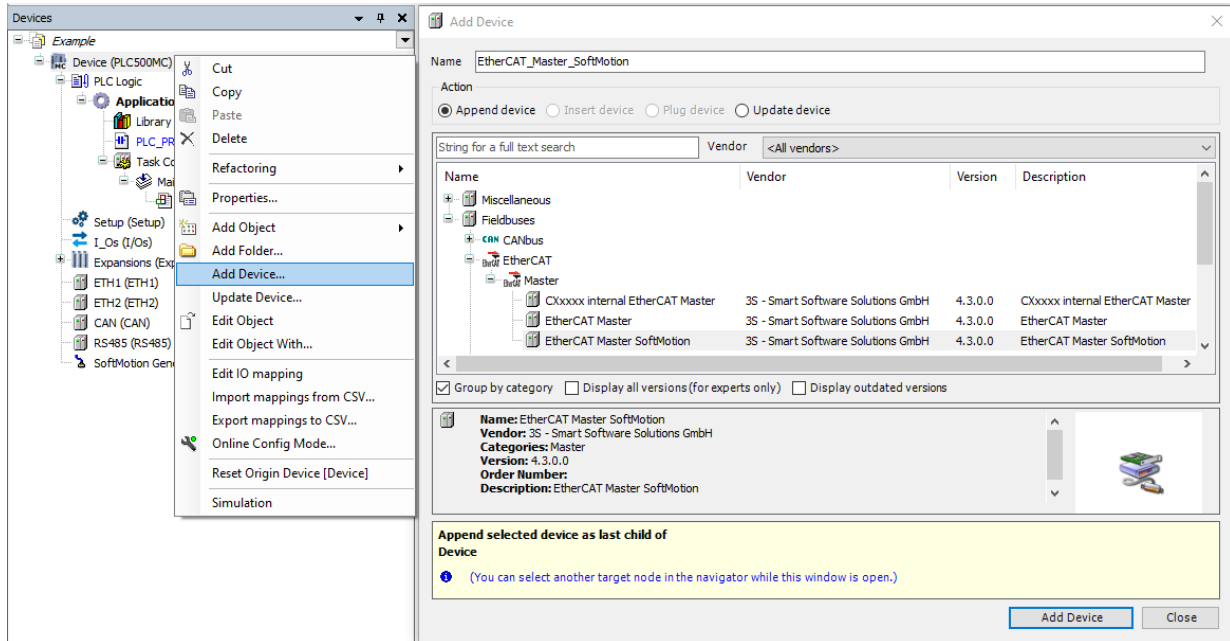

Figure 2.4: Adding EtherCAT Master SoftMotion to the device tree.
- To add a new **EtherCAT Master SoftMotion** communication interface, right-click **Device (PLC500MC)** and click **Add Device**. In the dialog, select **Fieldbuses > EtherCAT > Master > EtherCAT Master SoftMotion** and click **Add Device** to add it to the device tree, as shown in Figure 2.4.